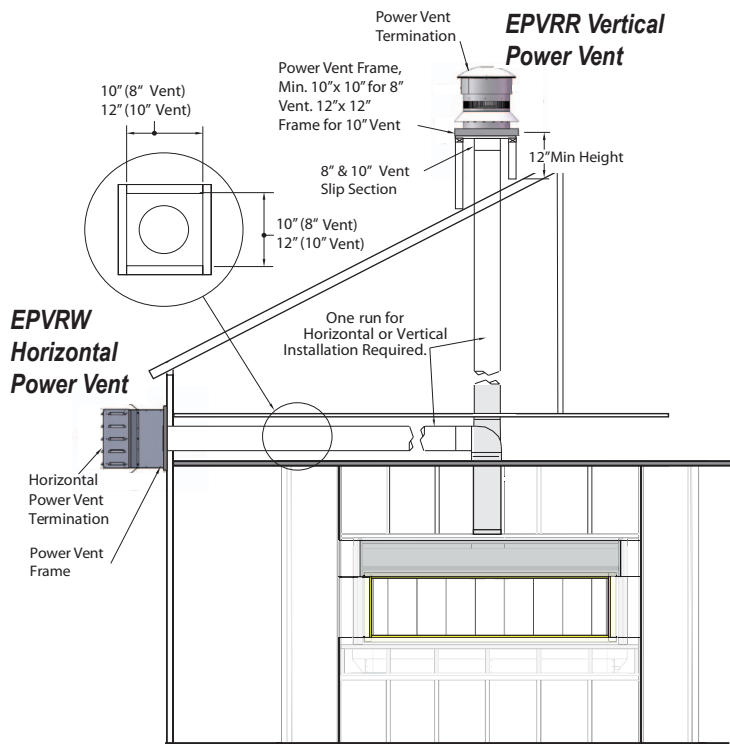

Figure 2. Typical C-View Residential Vertical (Top Vent) Power Vent Coaxial configuration.
2. Fasten the termination and its frame in place using a minimum of 4 screws, See **Figure 2** below.